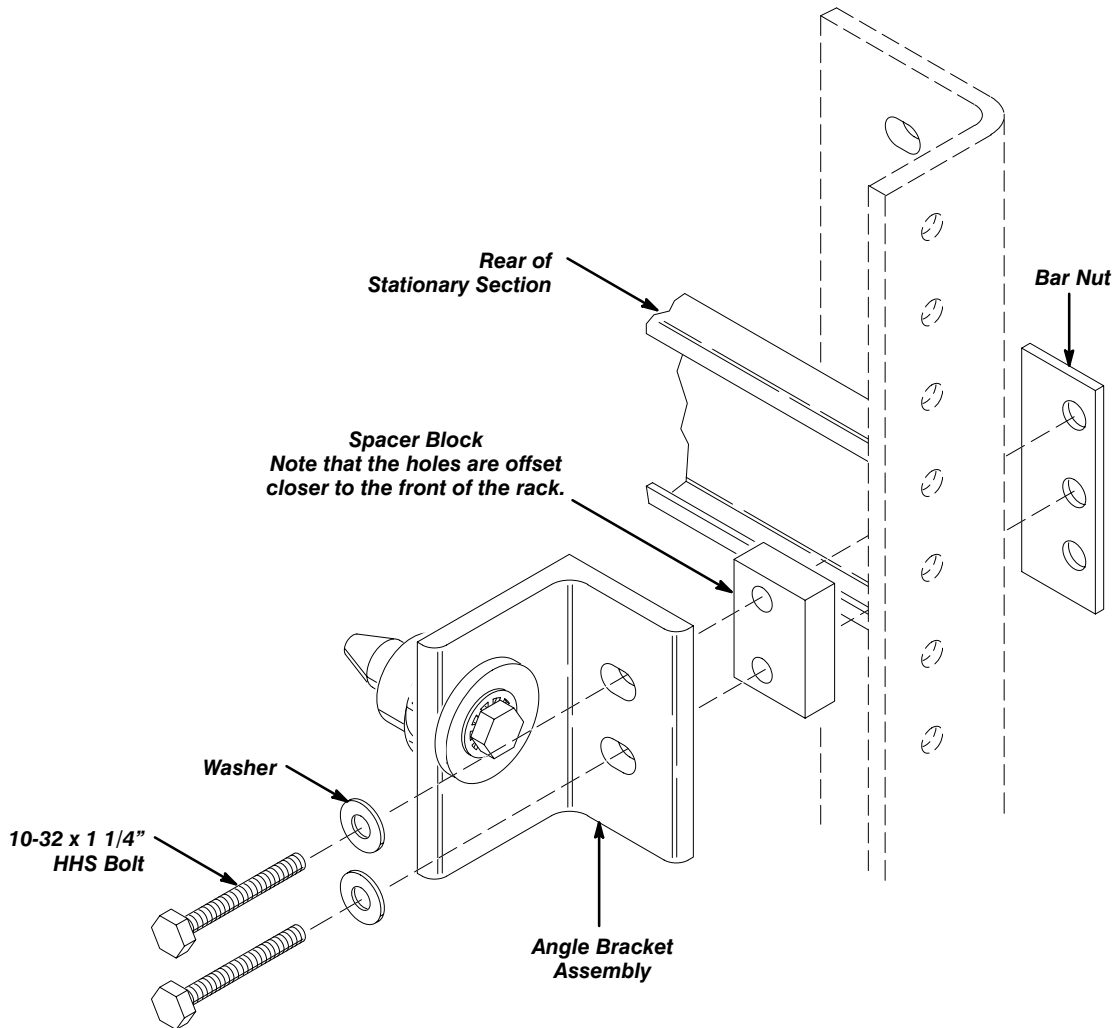

Figure 22: Attach the Angle Brackets to the Slide-Out Tracks
- Using an angle bracket assembly for each slide-out track assembly, attach the rear of the slide-out tracks to the equipment rack. See Figure 22.